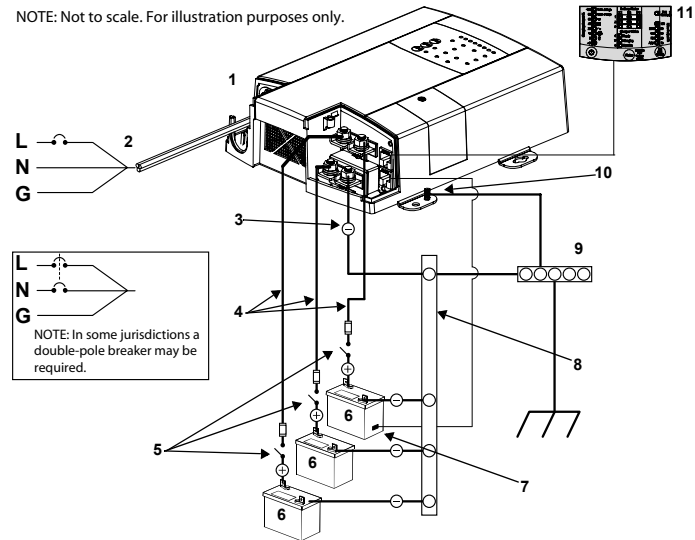

Figure 4 Configuration for Normal Loads
**NOTE:** The Truecharge2 Battery Charger is designed to be permanently mounted. Figure 4 shows a typical installation with three batteries, a battery temperature sensor (BTS) and a remote panel (both optional). It also shows the AC and DC wiring and protection devices required for a typical installation. Means of over-current protection and disconnection must be incorporated into the fixed wiring, in accordance with the electrical code that governs each installation.